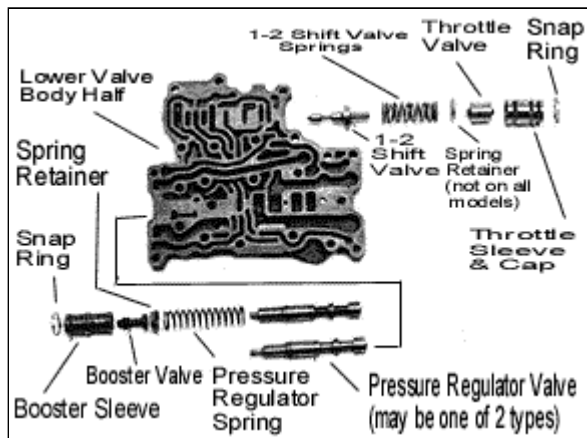

Figure 2
STEP 3 Remove and discard the pressure regulator snap ring from the lower valve body half (See Figure 2). Be careful when removing the snap ring, as there is spring tension behind it. Remove the booster valve and sleeve, spring retainer and spring. Discard the stock spring. Install the **red** pressure regulator spring supplied. Install the spring retainer with the cupped side over the spring. Make sure the booster valve is in place in the sleeve and install the valve and sleeve assembly into the valve body. Push in on the booster sleeve and install the new snap ring supplied. Be sure the snap ring is fully seated in its groove.
STEP 4 Remove and discard the 1-2 shift valve snap ring (See Figure 2). Be careful when removing the snap ring as there is spring tension behind it. Remove the 1-2 throttle sleeve and cap, throttle valve, spring retainer (not on all models) and springs. Discard the stock springs. Install the 1-2 shift valve spring supplied. Install spring retainer (if your valve body had one). Make sure the throttle valve is in place in the sleeve. Install the throttle valve, sleeve and cap assembly into the valve body. Push in on the throttle sleeve and install the new snap ring supplied. Be sure the snap ring is fully seated in its groove. Place the lower valve body half aside.